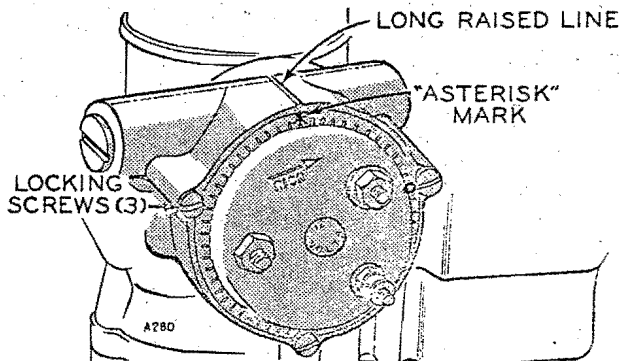

Fig. 10 Electric Choke
**ELECTRIC CHOKE.** - A 12 volt electric choke with vacuum booster is used on gasoline plants as shown in Figure 10.